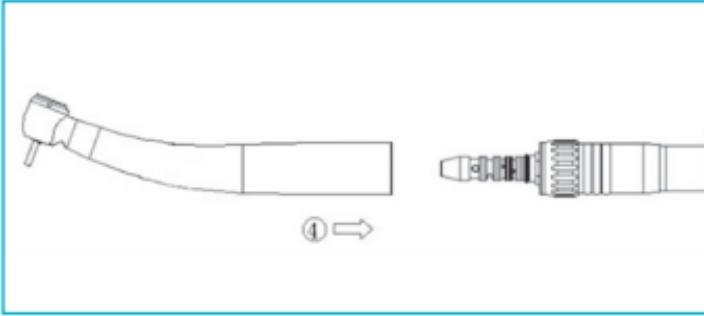

Fig. 6-5
- Assemble the medical device accurately on the LED coupling until the coupling audibly locks in the medical device (Fig.6-5④).